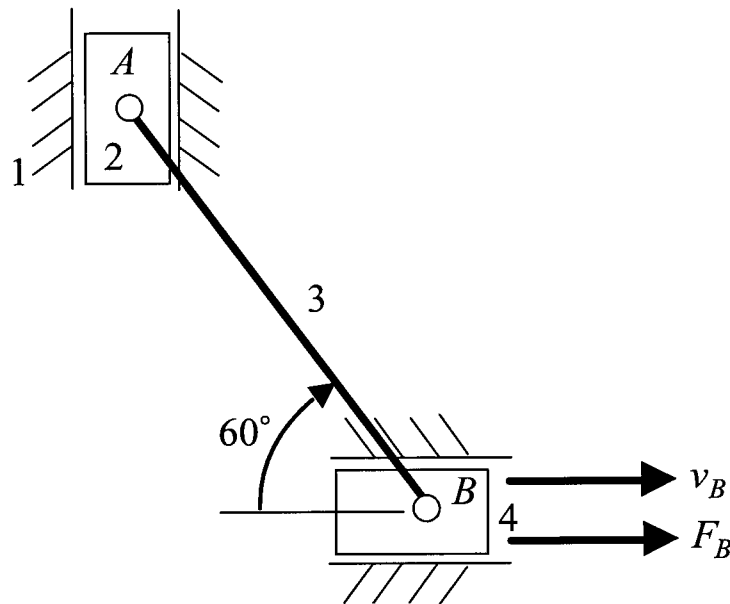

Figure 3
3. Determine the force  $F_B$  given that point  $B$  has a constant velocity  $v_B = 13$  m/s for the mechanism shown in Figure 3. The linkage is in the vertical plane. Include the effects of gravity, and assume no friction. The mass moment of inertia of link 3 is  $0.03 \text{ kg}\cdot\text{m}^2$ , and the mass centre of link 3 is  $300$  mm from  $A$ .